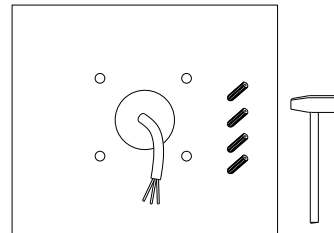

Figure 3-2
2. Fix rubber plugs into holes. (Figure 3-2)